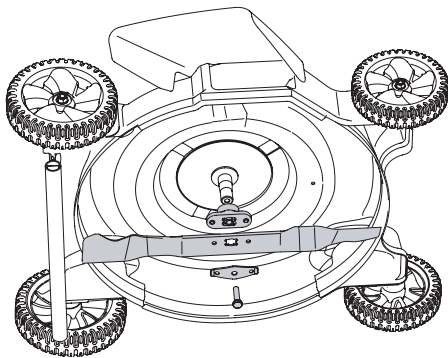

Figure 5-2
9. Install the blade adapter on the crankshaft with the "star" away from the engine. See Figure 5-2. Place the blade with the side marked "bottom" (or with part number) facing away from the adapter. Align the blade bell support over the blade with the tabs in the holes of the blade and insert the hex bolt.